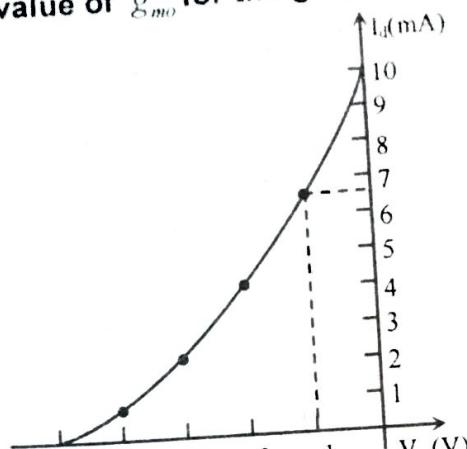

Figure 1
- 3.11. a) Determine the value of g_{mo} for the graph shown in the Figure 1: